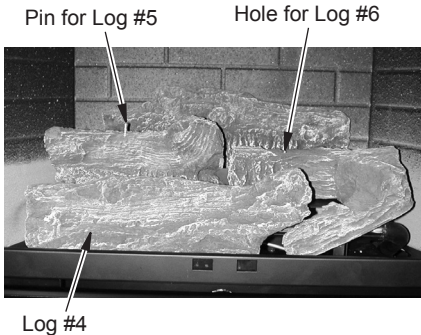

Figure 18 - Installing Log #4
4. Install pins on log #4 onto the two slots in the front bracket (see Figure 17 and Figure 18, page 18).
5. Insert the recessed hole on the bottom of log #5 onto the pin on log #2 (see Figures 18 and 19, page 18).
6. Insert the pin on log #6 into the hole on log #3 (see Figures 18 and 19, page 18).